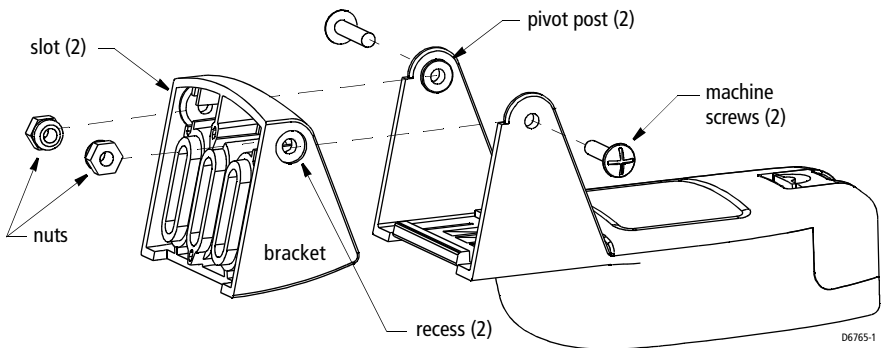

Figure 2-8: Assembling the Transducer
1. Insert the transducer's pivot posts into the recesses on the sides of the bracket (see *Figure 2-8*).
- **Stepped transom and jet boats** (3° transom angle)—Use the shim with the tapered end *down*. *Be sure* the nuts are in the slots in the back of the bracket before applying the shim (see *Figure 2-8*).
- **Small aluminum and fiberglass boats** (20° transom angle)—Use the shim with the tapered end *up*. *Be sure* the nuts are in the slots in the back of the bracket before applying the shim (see *Figure 2-8*).